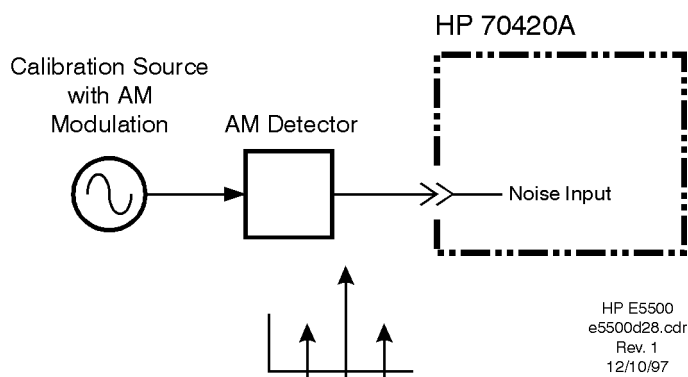

Figure 12-17 Measuring the Calibration Constant
- 4 Enter the carrier-to-sideband ratio and offset frequency, then measure the calibration constant. See Figure 12-17.